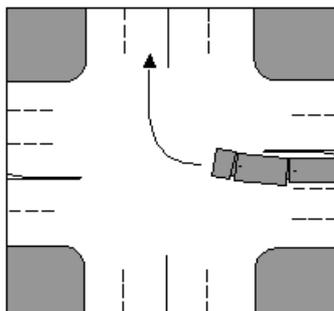

Fig 4
- 33.1.1 turn only in the direction of the arrows marked on the road (Fig. 4);